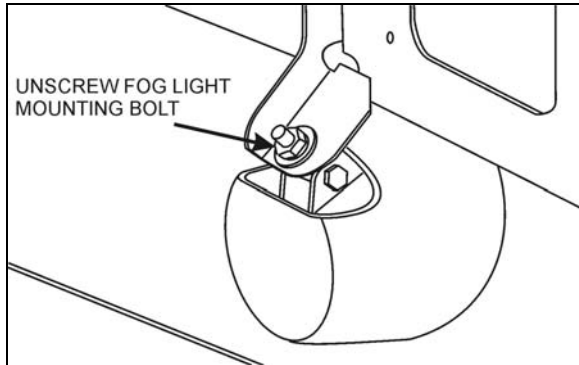

FIGURE 29: FOG LIGHT MOUNTING BOLT
3. Pull on the rod shown on figure 29 to pivot the headlight assembly.